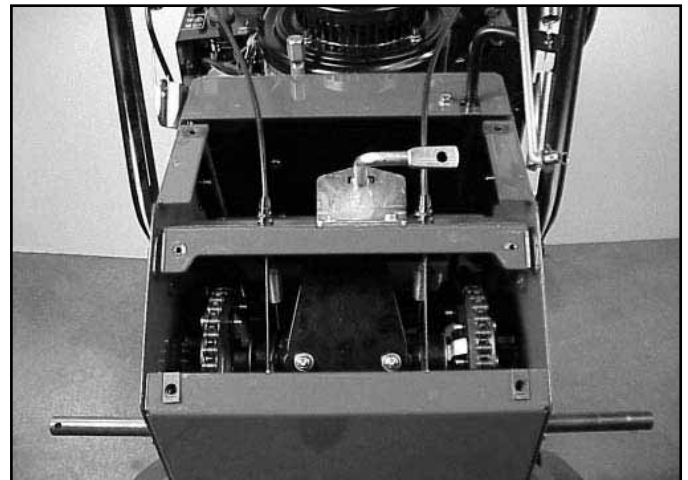

Fig 050
1. To replace the clutch cables, drain the fuel tank and stand the machine on the auger. Remove both lower covers (Fig. 050). The wheels and the bottom cover can also be removed if desired.